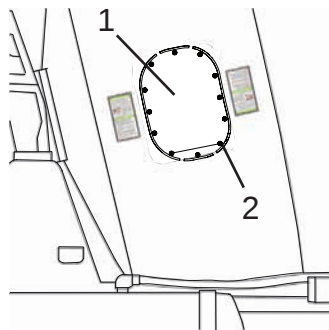

Figure 120
3. If the drum hatch is the oval hatch, remove the 12 drum hatch bolts (Figure 120, Item 1), and remove the drum hatch (Figure 120, Item 2).
8. For the oval hatch only: Install the drum hatch (Figure 120, Item 1). Loosely install 12 drum hatch bolts (Figure 120, Item 2).